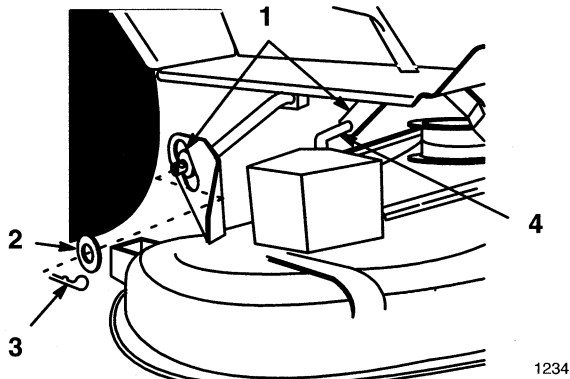

Figure 5
5. Place rear guide bushings, first left side then right, onto lift arms then slide deck left into position (Fig. 5).
6. Secure deck to rear lift arms with washers and hairpin cotters (Fig. 5).
- Attach rear link to attachment lift with washer and hairpin cotter (Fig. 5).